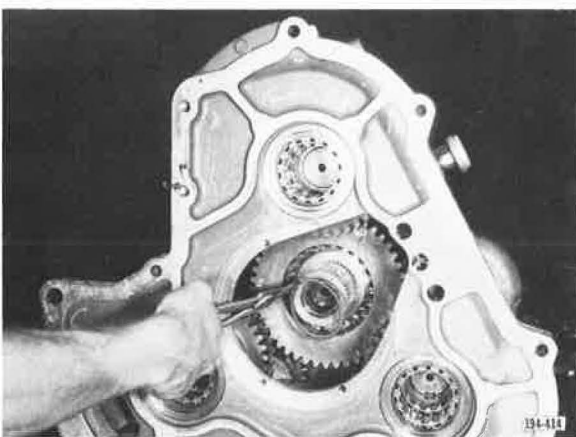

Figure 339. Installing Snap Ring
27. Install Lo/Hi range gear retaining snap ring, using snap ring pliers J-6435, or equivalent. See Figure 339.